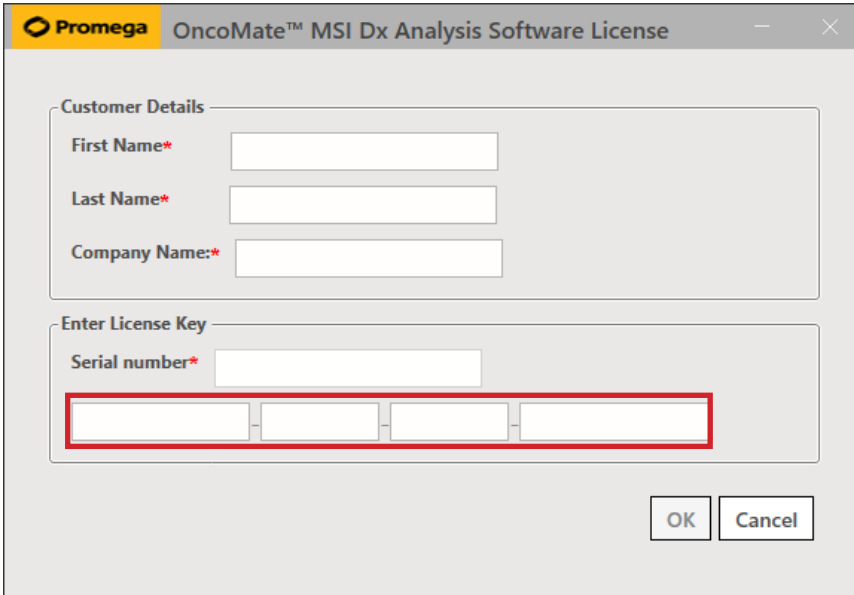

Figure 6. The OncoMate® MSI Dx Analysis Software License window prompts you to enter your details and the software license key.
10. Enter your first name, last name, company name and license key (Figure 6) in the OncoMate® MSI Dx Analysis Software License window. A label containing the license key can be found affixed to the USB drive. The license key field is highlighted in red in Figure 6. Once the license key is entered in the separate fields below ‘Serial number’, the applicable serial number will automatically appear in the ‘Serial number’ field.